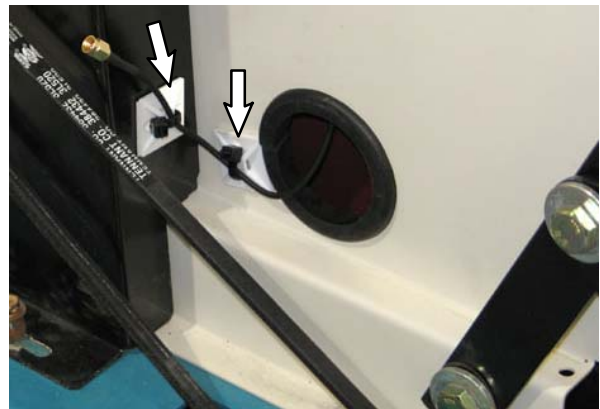

FIG. 16
23. Route the antenna (6) wire through the grommet in the hole below the telemetry control box (1). Use cable tie mounts (17) / cable ties (18) to secure the antenna wire away from the belt. (Fig. 16)